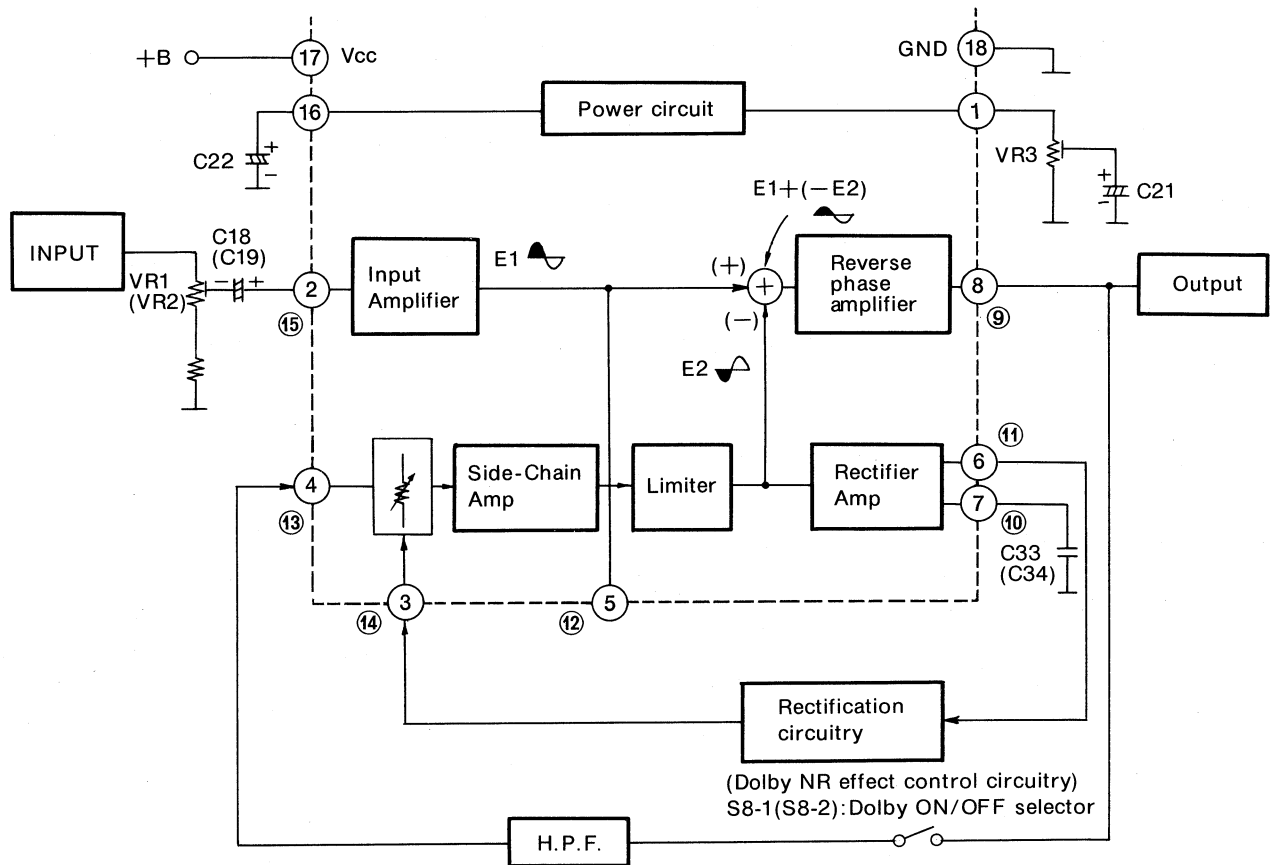

Fig. 35 Block Diagram-IC₃ RVIHA11226 (Cassette Deck)
6. When Q9 (Q10) is ON, the electrolytic condenser is connected in parallel with C207 (C208), and this becomes the circuit shown in Fig. 35 (B).